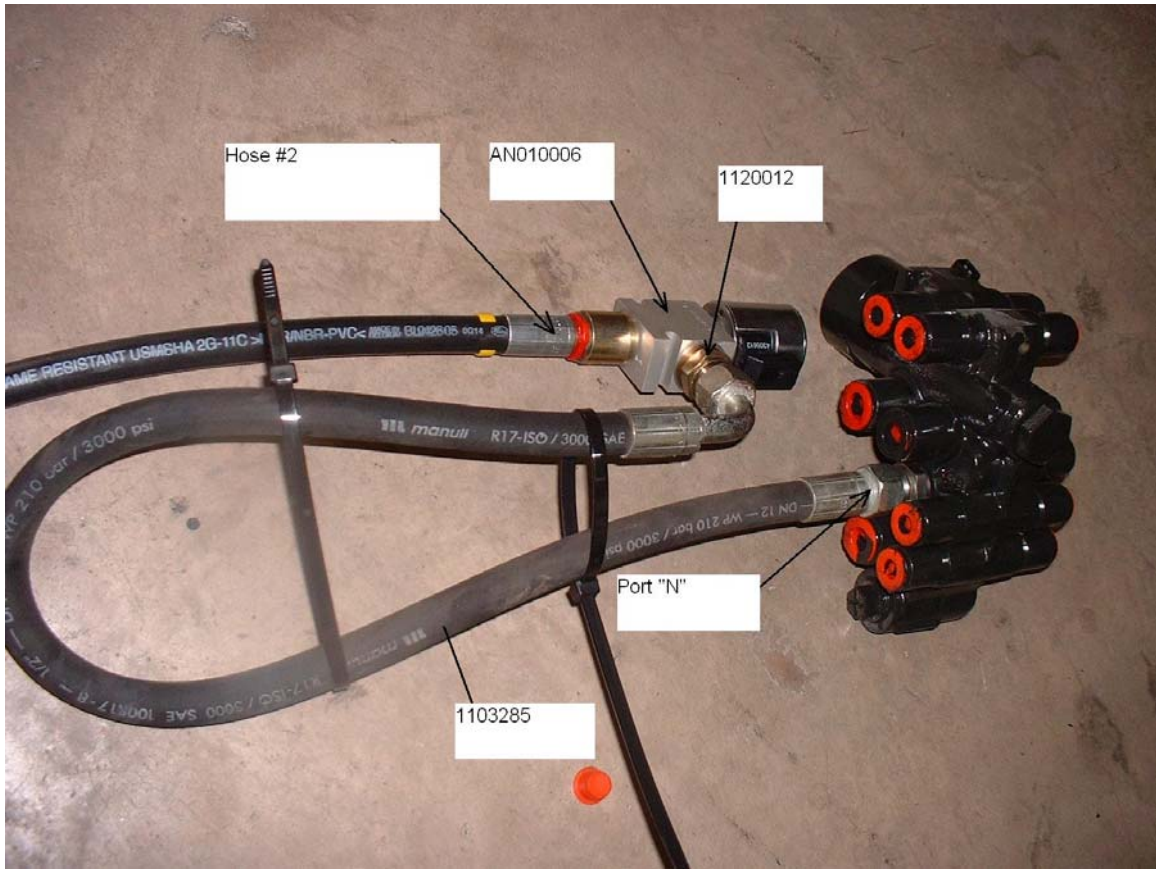

Figure 3. Assembly of Shut Off Valve
3. Insert hose marked #2 into Shut Off Valve and route hose included in kit to port “N”, as shown in Figure 3.